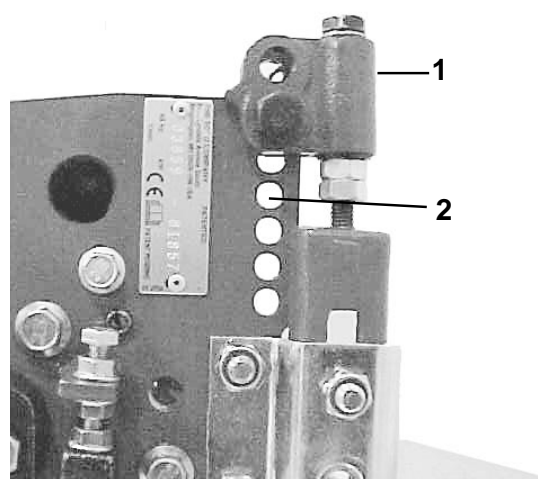

Figure 12
3. Set the rear support bracket and side plate using the approximate dimensions given by Table 1. The rear support bracket is either in the top or bottom location, and the side plate location can be in holes 1 through 4, with 1 being the top hole (Fig. 12).